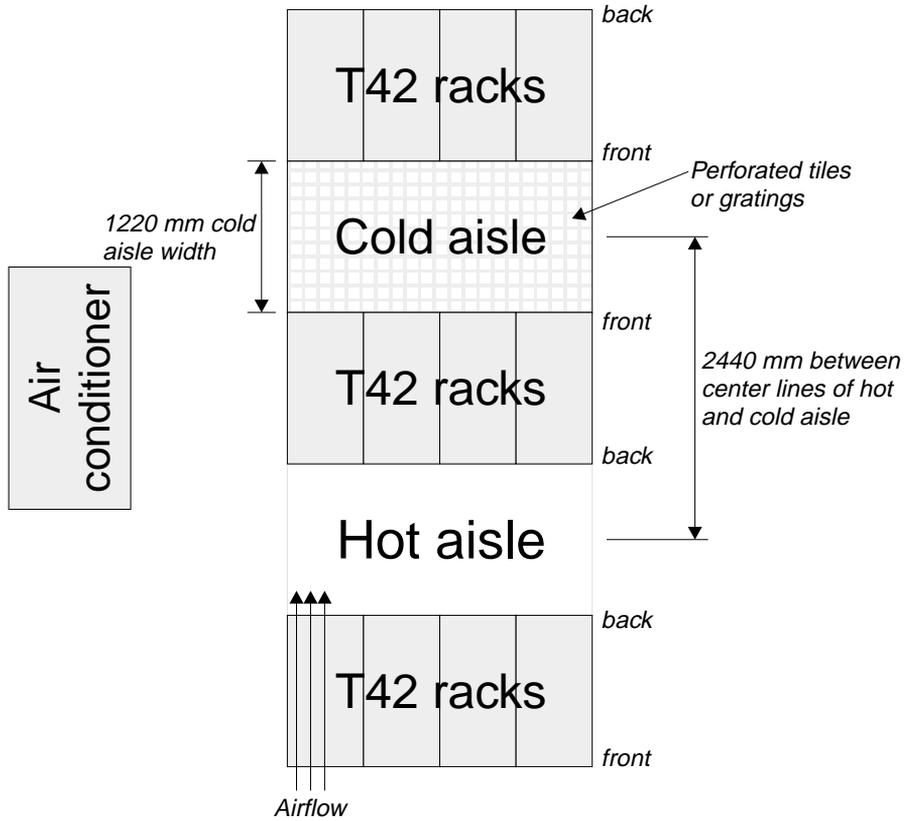

Figure 1. Example of Cold Aisle / Hot Aisle Rack Configuration
- Air enters at the front of the rack and leaves at the back. To prevent the air that is leaving the rack from entering the intake of another piece of equipment, racks must be positioned in alternate rows, back-to-back and front-to-front. This arrangement is known as “Cold Aisle / Hot Aisle” and is shown in Figure 1 on page 12.
Air conditioners must be located where they can take their input from the hot aisle, and supply cooled air to the underside of the cold aisle perforated tiles or gratings. It is recommended that the air conditioners be located at the ends of the hot aisles (see Figure 1 on page 12). This requirement ensures that hot exhaust air cannot flow over the top of the racks and reenter at the front.
The perforated tiles or gratings must be capable of handling the airflow requirements for all the 7133 units that are present in a rack. For example, if a T42 rack contains ten 7133 units, and the air conditioners are located at the ends of the hot aisles (see Figure 1 on page 12), the airflow required is 19.8 m3 per minute (700 ft3 per minute). Note that a 40% open grating is generally required to supply this volume of air. If the air conditioners are located in front of, or behind the racks, the airflow required for the example T42 rack is now 25.5 m3 per minute (9003 per minute).